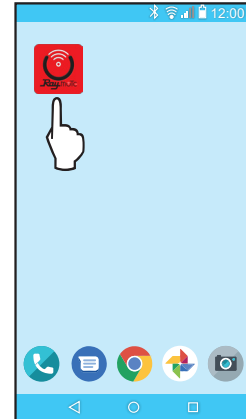

Figure 77. Find your Raymote Mobile App Icon
2. Find the Raymote mobile app icon on your device. See **Figure 77**.